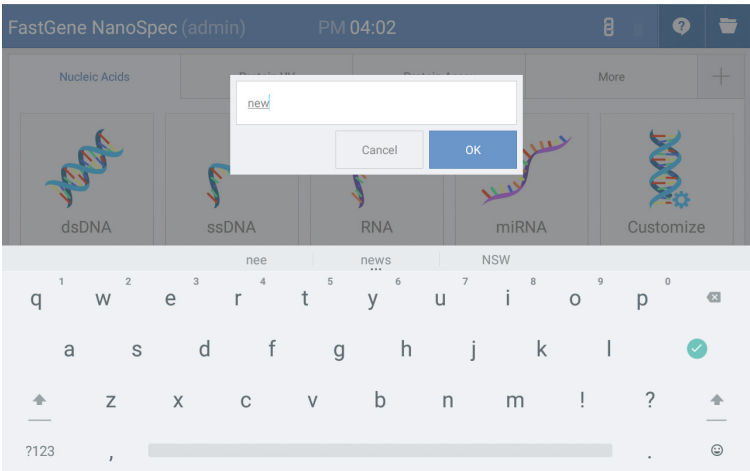

Fig. 1.3
2. [Fig. 1.3] Enter the name of the newly created user menu in the user input window.